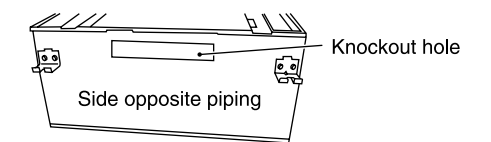

Fig.1
- (1) Cut the knockout hole (45 × 240) on the side opposite to the piping with nippers.
- (2) Cut out and remove the thermal insulation on the inside around the knockout hole (see Fig.1). Ensure that the drain pan is not damaged while cutting.